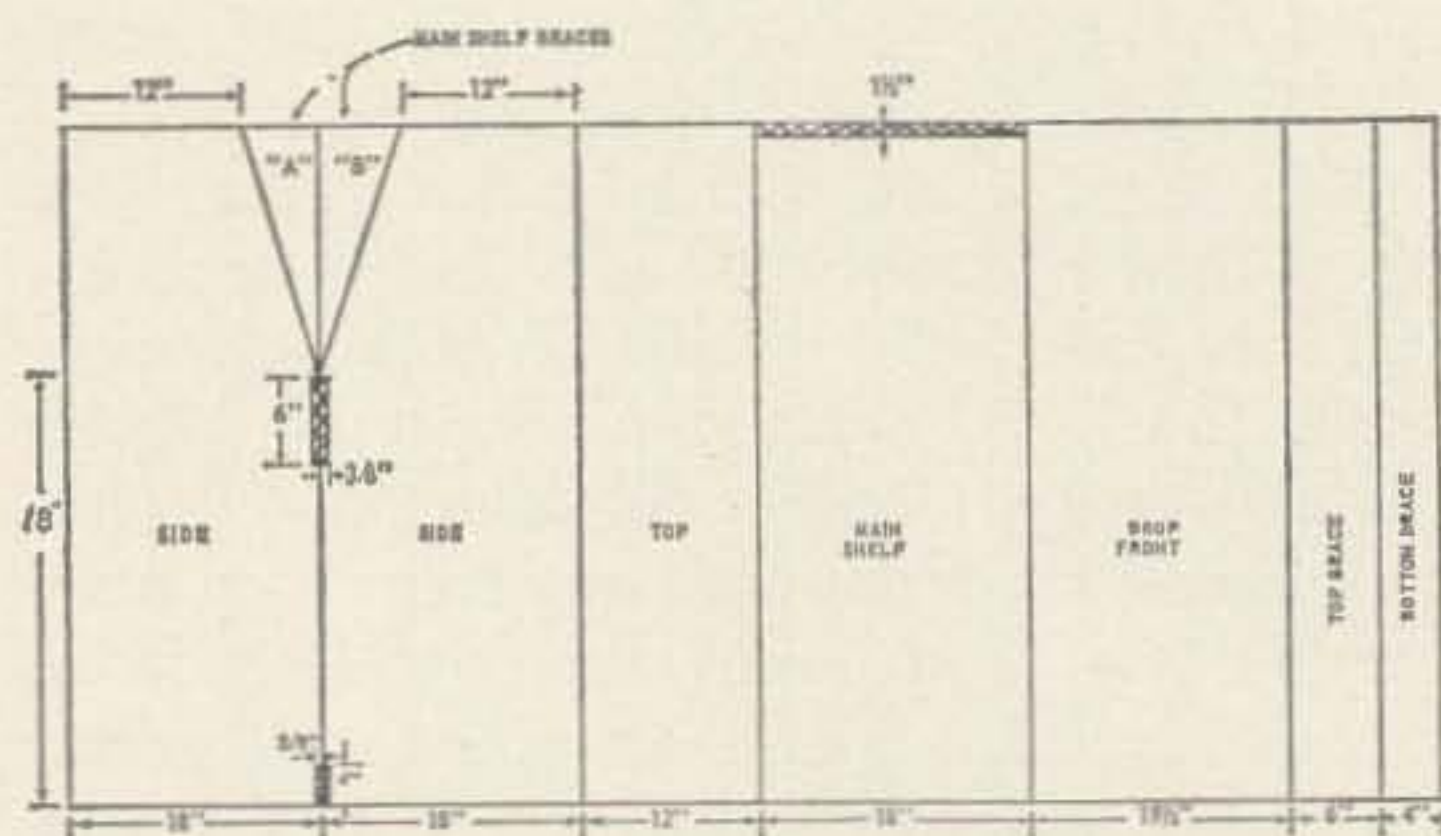

Fig. 1. Pattern layout for the basic desk operating cabinet. It's laid out on a 4' x 8' sheet of $\frac{3}{4}$ " plywood.
1. Layout the pattern (Fig. 1) on the plywood sheet. Plywood is normally clear on one side but has knotholes on the other. Juggle the pattern so the drop-front and the upper halves of the sides are clear wood on both sides.
3. Fasten the main and bottom shelf supports (A & B Fig. 1 for the main shelf and two 18" pieces of the 1x4 for the bottom shelf) to the sides with at least four 1½" wood screws in each. (These pieces must hold the entire weight of all equipment installed.)